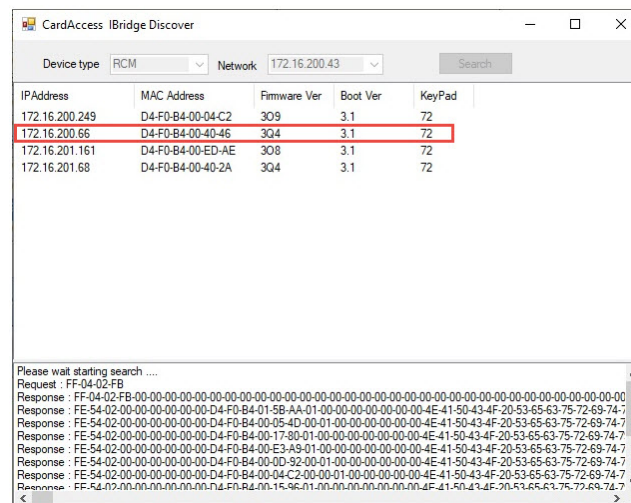

Figure 3.
2. Upon finding the IBR-ZREMOTE unit, take note of the IP Address, Mac Address, Firmware version and Bootloader version. The Firmware version should be 3Q4 or later and the Bootloader version should be 3.1 or later. If the RCM firmware needs to be updated, the image name is **IBR_ZREMOTE_RCM_3Q4.hex** (Refer to figure 3).